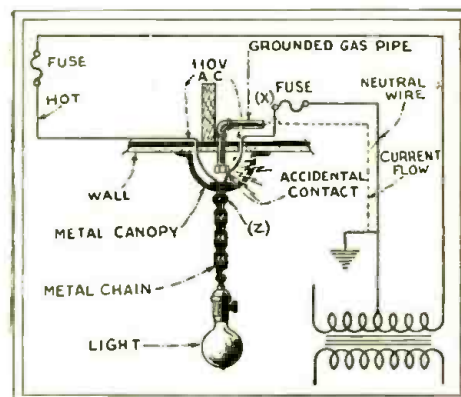

Fig. 2
stallation of this kind it is very seldom that the fixture is free from grounds. (See Fig. 2.)
In a fixture of the type shown in Fig. 2, where the wire is woven through the chain, a static charge is set up in this chain and, as long as everything is quiet, there is no trouble. But walk across the floor, or otherwise move or jar the chain, and a crackling or popping noise will be set up. The cure here is to tape the eyelet (Z) and thus insulate the chain from the canopy.
TO balance a neutrodyne receiver similar to the Philco "87," Brunswick "14" and "21," etc., an output meter should be connected across the speaker terminals, as shown in Fig. 2. The R.F. oscillator (such as that shown in Fig. 1, which may be operated conveniently from the light socket) is set in operation at about 1250 kilocycles, and a wire coupled to its oscillator coil is attached to the "antenna" post of the set. Then after adjusting the volume control for full meter reading, start with the last stage of R. F., and balance each of the neutralizing condensers until the reading is at minimum. Turn the volume control till a reading